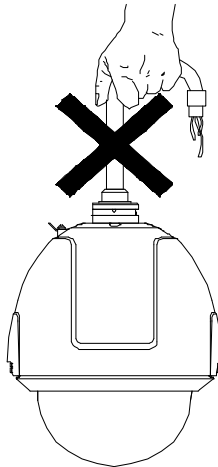

Figure 2-1 Do Not Drag the Cables
- Do not drag the speed dome with its waterproof cables as shown in Figure 2-1; otherwise the waterproof performance is affected.